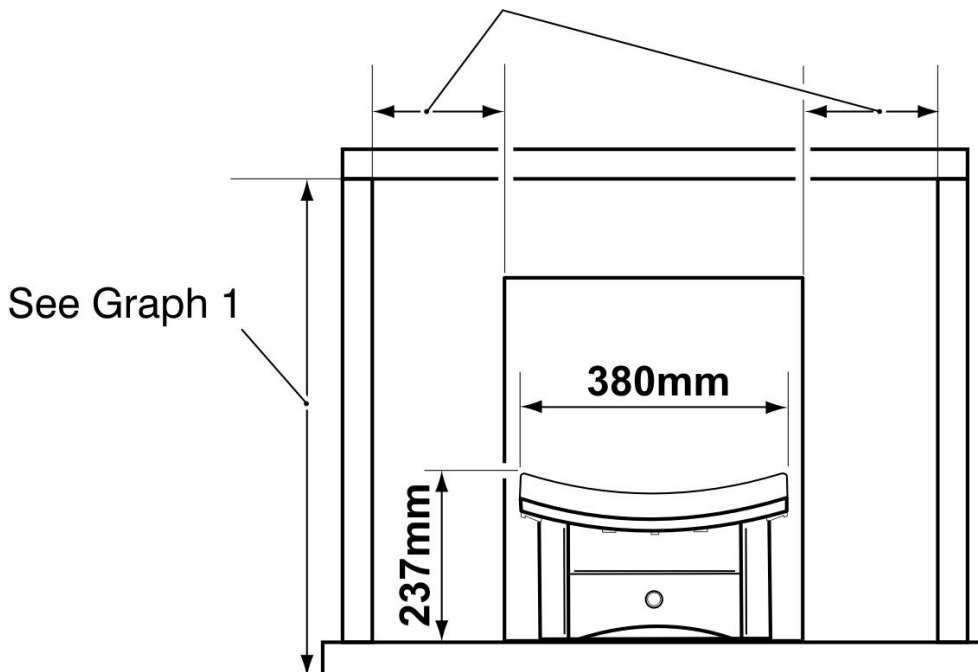

Figure 4. Appliance dimensions
**3.14** Combustible side projections up to 75mm forward of the fixing plane of the fire are to be a minimum of 125mm from the fireplace opening (See figure 4)
**3.14.1** Combustible side projections greater than 75mm forward of the fixing plane of the fire are to be a minimum of 178mm from the fireplace opening (See figure 4).
**3.14.2** Non-combustible side projections to be 75mm from the fireplace opening (See figure 4)